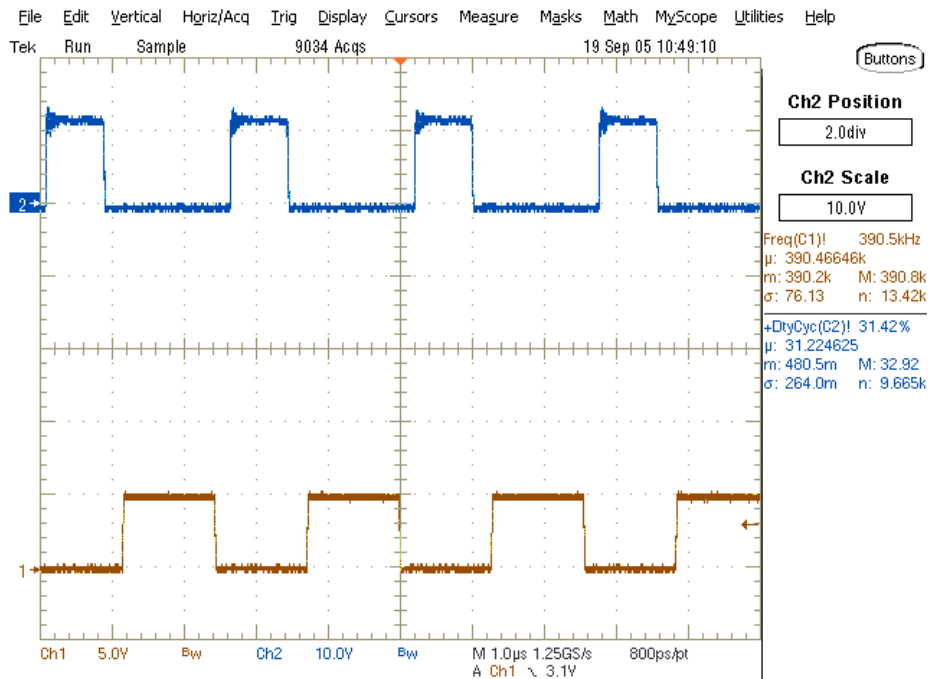

Figure 2. TPS40200 Synchronized to a 50% Duty Cycle External Clock
The following scope picture (Figure 2) shows a 5-V input clock at the TP6 input operating at 390 kHz and a 50% duty cycle. The switch node also shown in the picture is switching at the same frequency with a 12-V  $V_{CC}$  supply. The RC operating frequency of the TPS40200 is set by R3 and C5 to be 300 kHz.
2. Prior to connecting the dc-input source,  $V_{12V\_IN}$ , it is advisable to limit the source current from  $V_{12V\_IN}$  to 5 A maximum. Ensure that  $V_{12V\_IN}$  is initially set to 0 V and connected as shown in Figure 2.